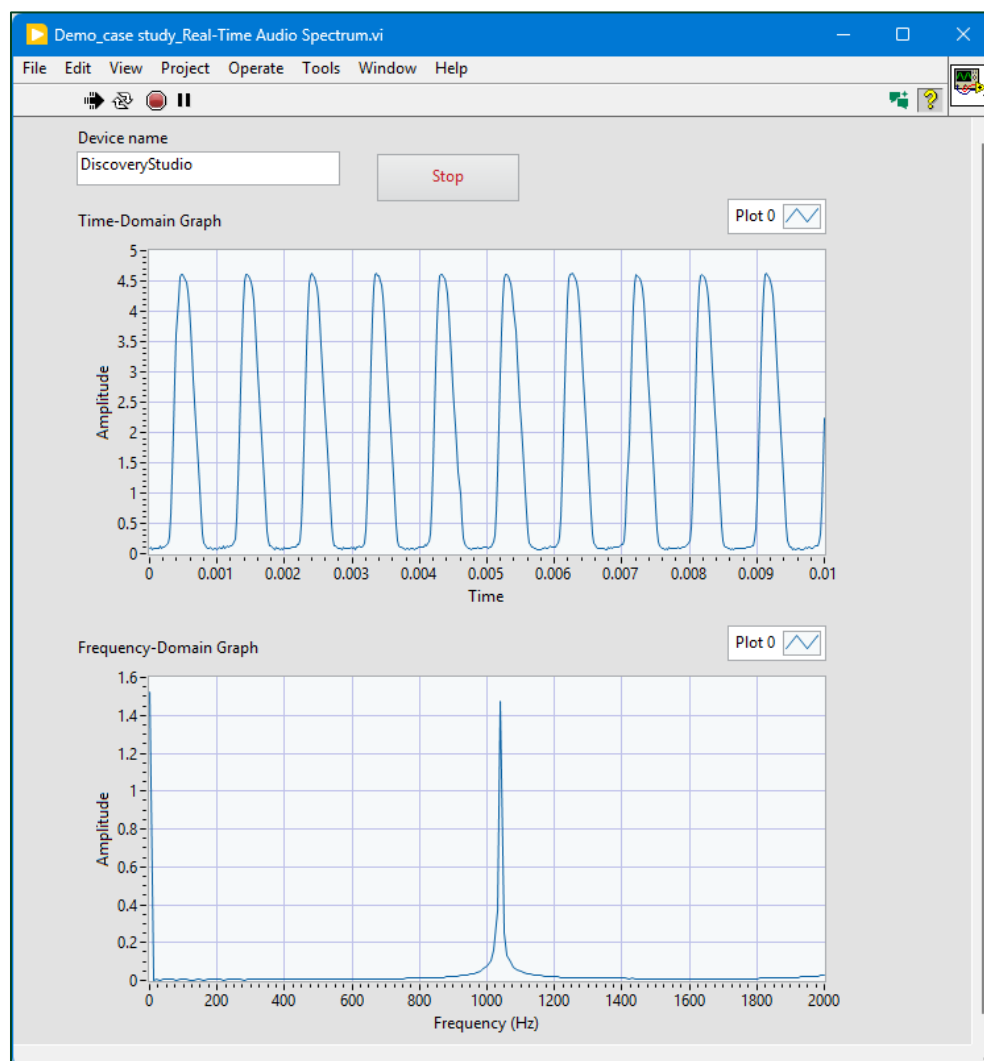

Figure 9. VI Front Panel
- 2.2. Modify the front panel shown in **Figure 9**. Inside **Device name** String Control write your corresponding **Device** name from **Table 2**.